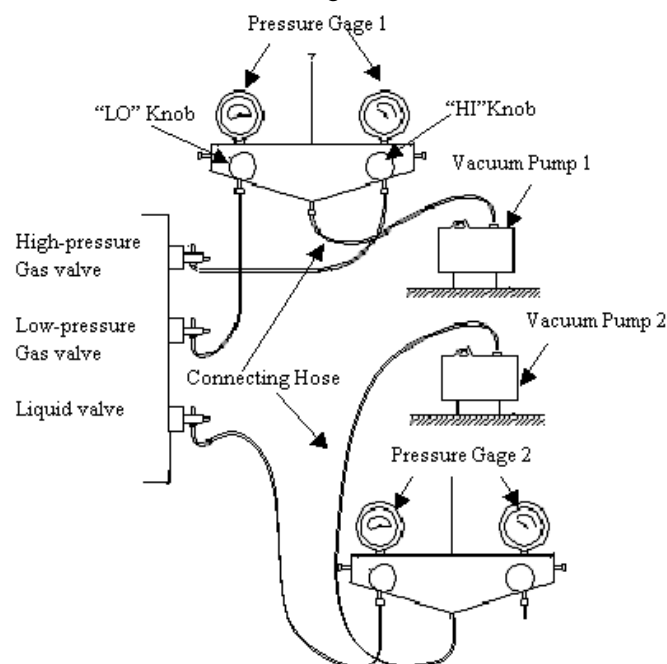

Fig.30
- (2) When there are more than 2 outdoor units, air purging from the nozzle located on the oil balance valve. Confirm outdoor oil balance valves are closed. See Fig.30.